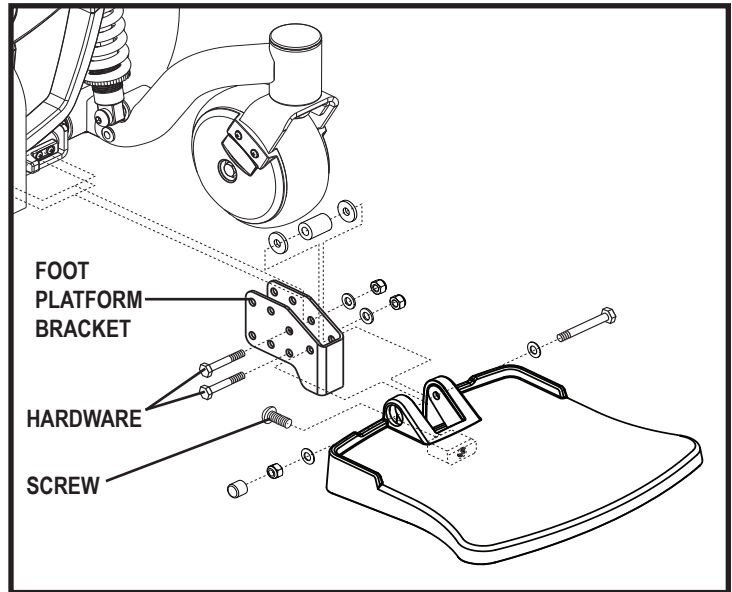

Figure 20. Foot Platform Adjustment
1. Remove the hardware from the foot platform bracket. **See figure 20.**
1. Flip up the foot platform and locate the screw. **See figure 20.**